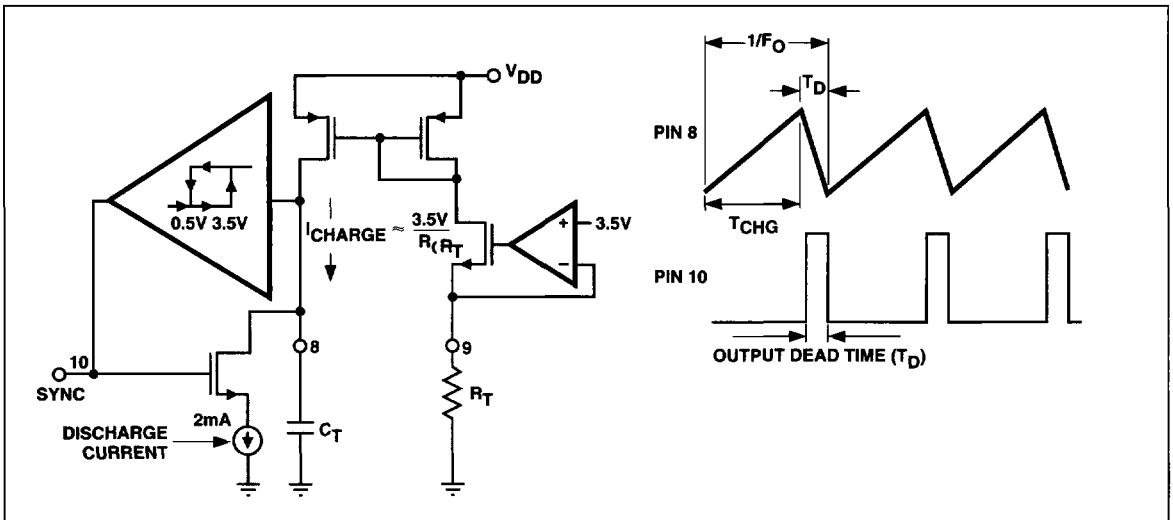

Figure 6. Oscillator Circuit
- 1) First determine the frequency of operation F_O and the desired "dead" time, T_D (see Fig.6 graph).
- 2) The current mirror in Fig. 6 , shows: